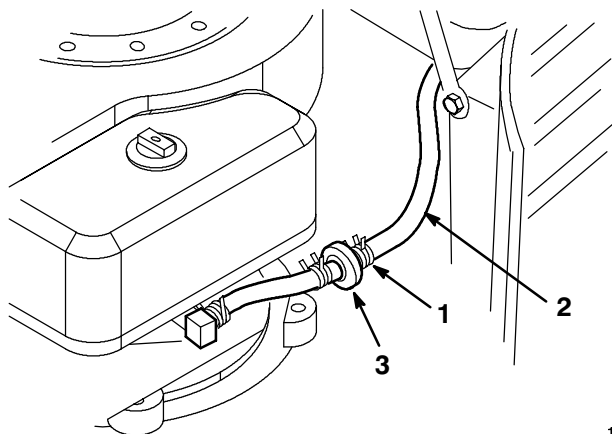

Figure 27
3. Squeeze the ends of the hose clamp together and slide it up the fuel line toward the fuel tank (Fig. 27).
4. Pull the fuel line off the filter (Fig. 27) and allow gasoline to drain into a gas can or drain pan.
The best time to replace the fuel filter (Fig. 27) is when the fuel tank is empty. Never install a dirty filter if it is removed from the fuel line.
4. Squeeze the ends of the hose clamps together and slide them away from the filter (Fig. 27).